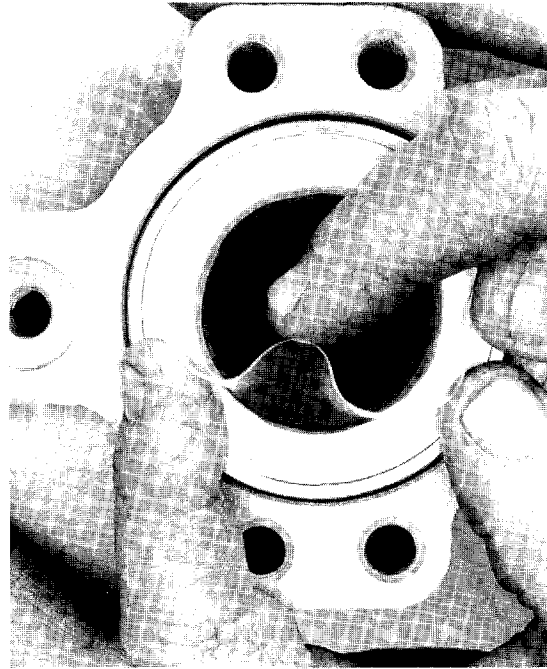

Fig. 30
34. Unfold the top flange (Figure 30) and center both the top and bottom of the HYDRATUBE. Make certain the HYDRATUBE flanges are seated in the HYDRATUBE adapters.